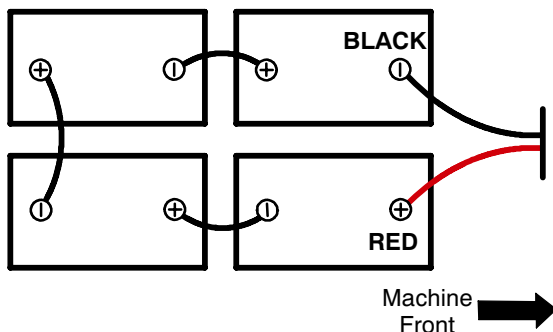

FIG. 2
2. Carefully install the batteries into the battery compartment tray (Figure 1). Arrange the battery posts as shown (Figure 2).
3. Connect the battery cables to the battery posts as shown (Figure 2), RED TO POSITIVE (+) and BLACK TO NEGATIVE (-).